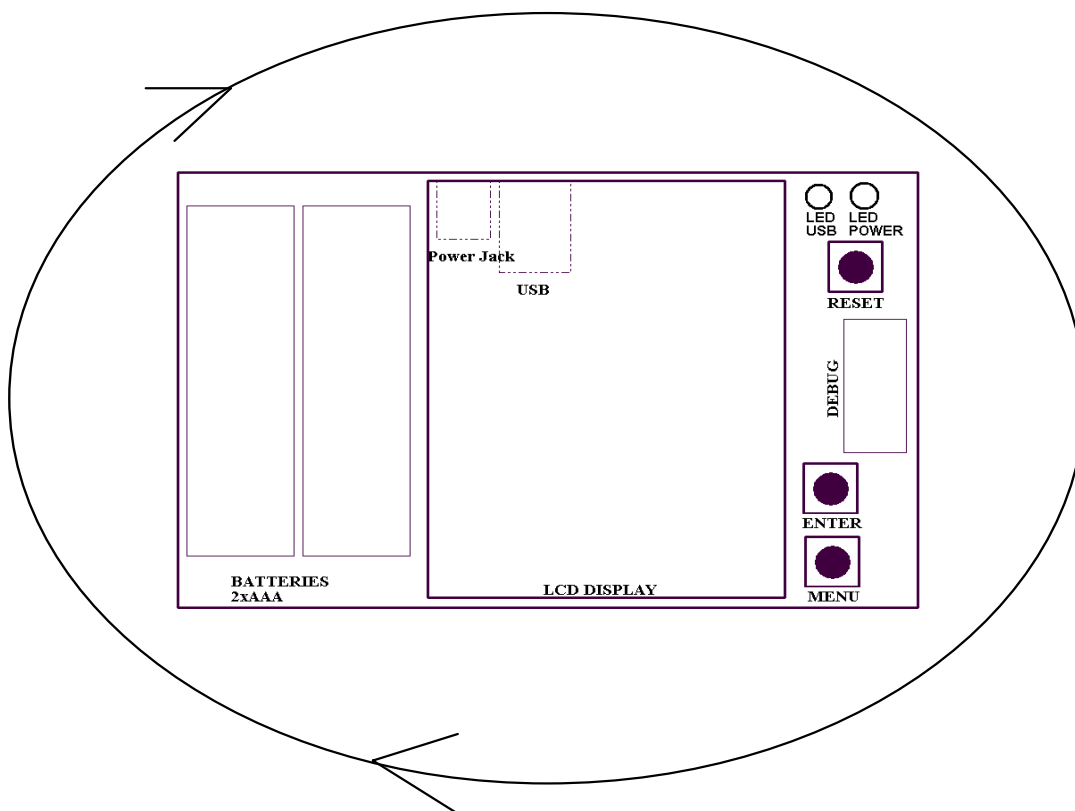

Figure 8. Compass Rotation during Calibration
2. Start rotating the compass, and keeping it as horizontal as possible (Figure 8). Any tilt of the compass during the rotation will introduce errors in the calibration values. While rotating the compass, the direction arrow on the LCD will turn around, giving an indication to the user about how fast to rotate the compass. The arrow will make one complete turn during this step of the calibration procedure. It is recommended that while the arrow makes a complete turn the compass should be rotated at least 2 complete turns.